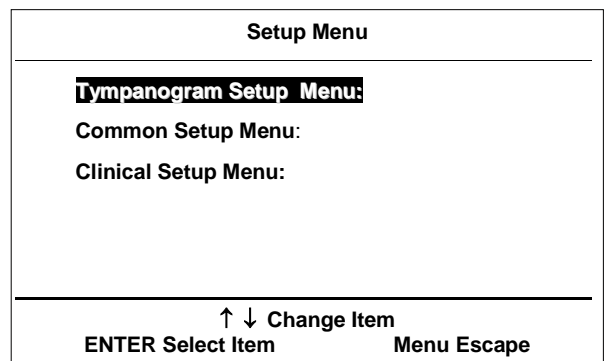

Figure 27
Select the menu option SETUP as illustrated in Figure 27 and the main setup menu will appear on the LCD display ⑤. You can make different settings for the measurement of the tympanogram and the stapedius reflex, for instrument setup (for example the contrast of the LCD display ⑤). All your settings are saved permanently until you will change them again. The settings also switched off.